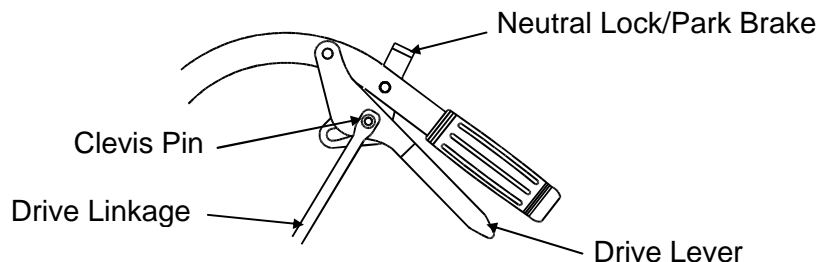

FIGURE 8
- b) Insert clevis pin from bolt bag through drive linkage, lever and slot in the neutral lock/park brake latches (See Figure 8). Make proper adjustments before adding hairpins.